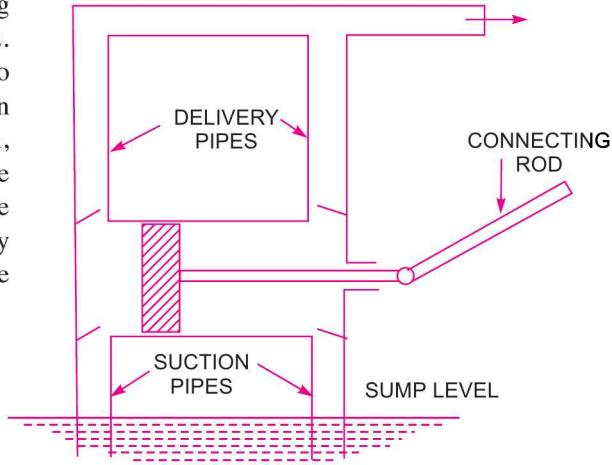

Fig. 20.2
20.3.3 Discharge, Work done and Power Required to Drive a Double-acting Pump. In case of double-acting pump, the water is acting on both sides of the piston as shown in Fig. 20.2. Thus, we require two suction pipes and two delivery pipes for double-acting pump. When there is a suction stroke on one side of the piston, there is at the same time a delivery stroke on the other side of the piston. Thus for one complete revolution of the crank there are two delivery strokes and water is delivered to the pipes by the pump during these two delivery strokes.